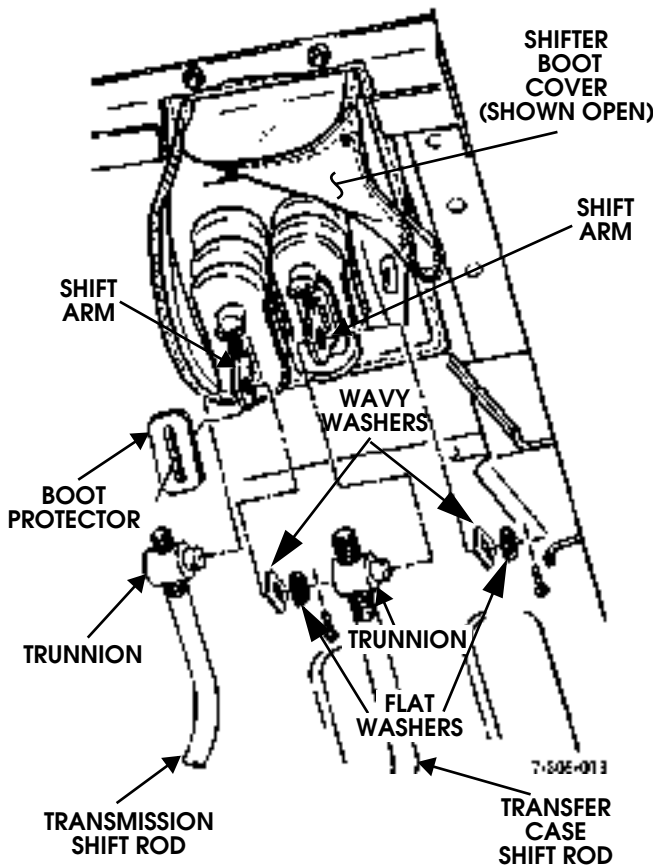

Figure 5-54: Shift Rod Connection (Illustration Shown with Shifter Boot Cover Opened)
NOTE: Wavy washers eliminate any potential transfer case shift linkage rattle (Figure 5-54). If a rattle is present on a vehicle not equipped with a wavy washer, install one as shown. Refer to parts manual for wavy washer part number.
2. Disconnect shift rod trunnions at housing shift arms (Figure 5-54).
9. Connect transmission and transfer case shift rods to shift arms in control housing (Figure 5-54).